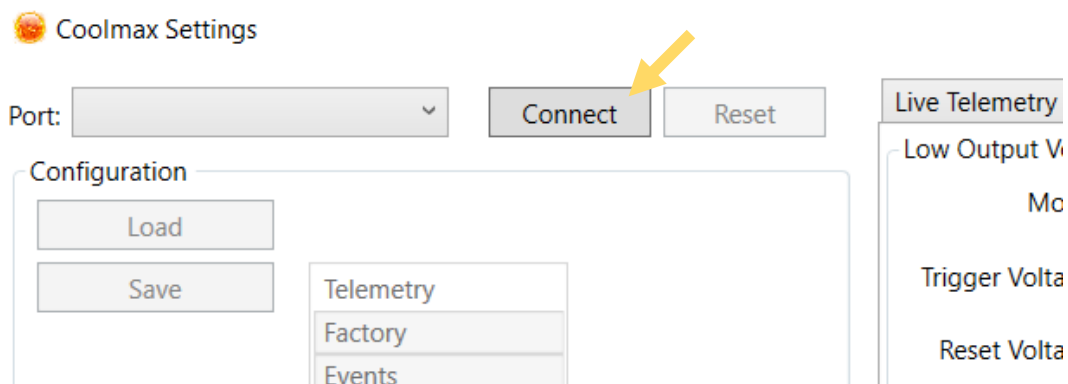

Figure 15: Location of the Connect button on the CoolMax Utility Software.
6. Open the **CoolMax Utility Software (Run as Administrator)** and hit “**Connect**” in the top left-hand corner of the program as demonstrated in **Figure 15** below.